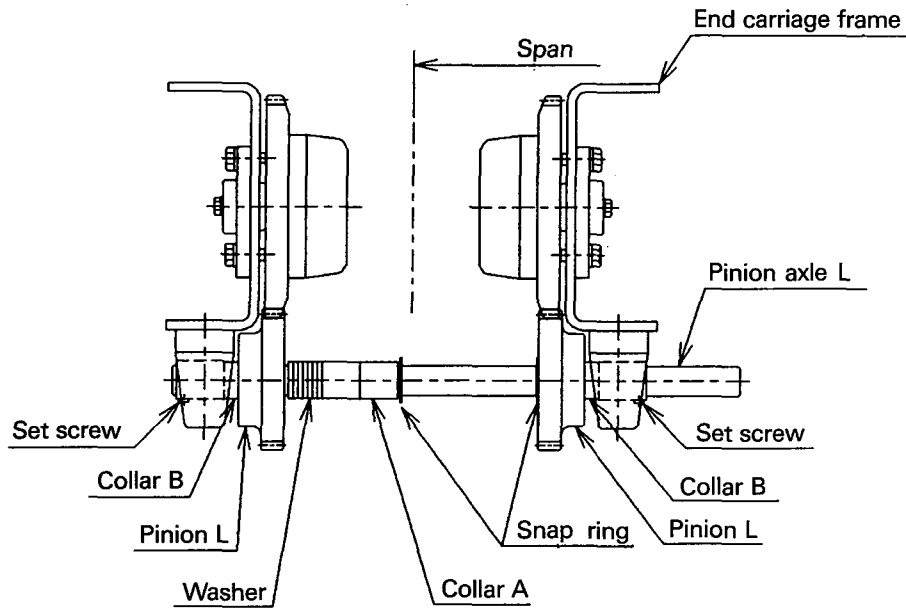

Fig. 12
The pinion axle can be used for travel rail other than JIS material. Numbers of collar A determined by the travel rail width (T) is built in the pinion axle (Fig. 12) for adjustment of collar A by referring to Fig. 12 and Table 8.